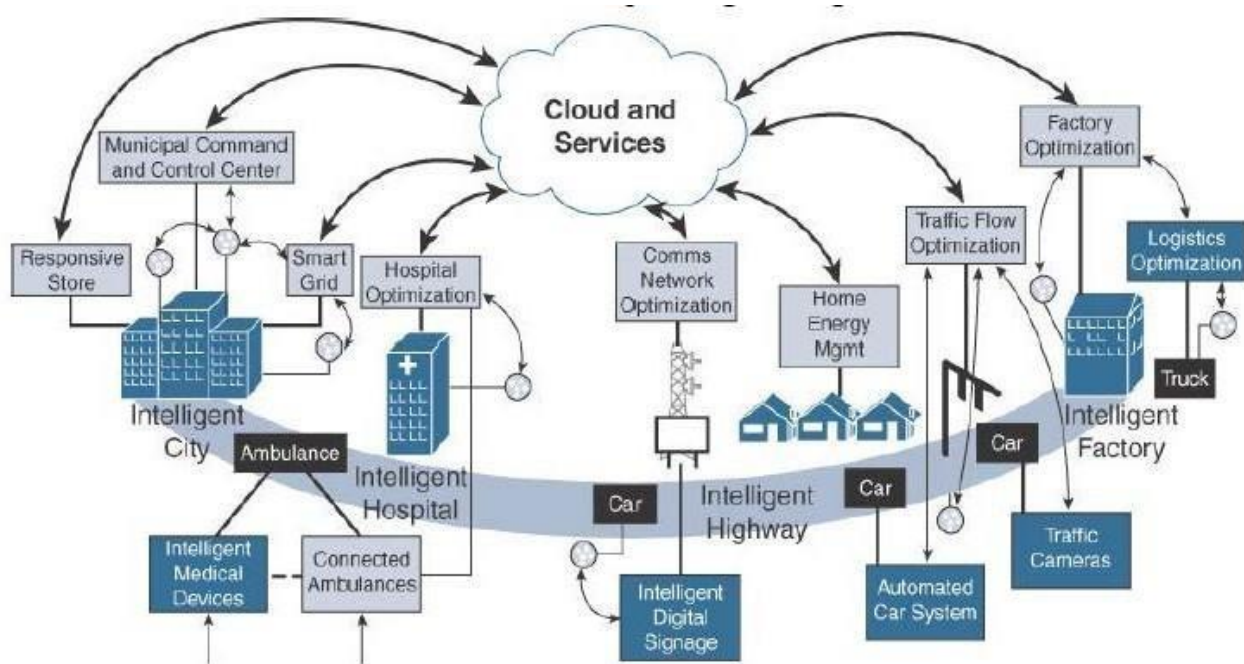

Figure 5.14 The Role of the Cloud for Smart City Applications
- Figure 5.14 shows the vision of utilizing the cloud in smart solutions for cities.
- With the cloud approach shown in Figure 5.14, smart cities can also take advantage of operating expense-based consumption models to overcome any financial hurdles in adopting solutions to their most critical issues.